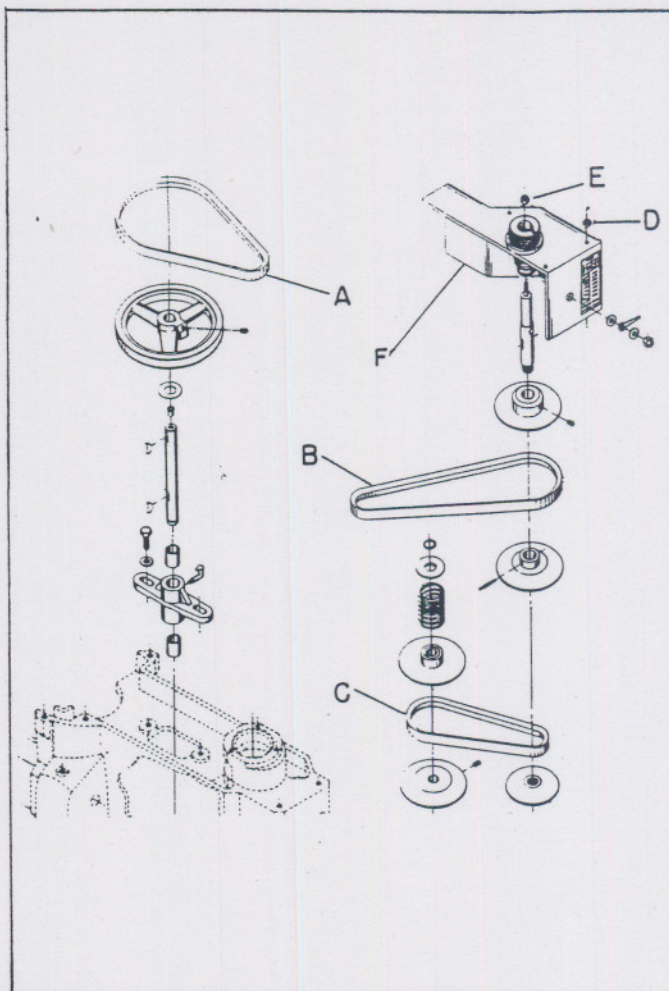

Fig. 16.
The power feed belt (A) Fig. 16, is replaced the same on Vari-Rate Models as on Standard Models. Refer to instructions 1 through 7 under Replacing Power Feed Belts (Standard Models Only).
To replace the variable speed belts (B and C) Fig. 16, proceed as follows:
1. Remove three nuts (D) Fig. 16.
2. Remove nut (E) Fig. 16 and remove the cover housing for variable speed pulleys (F) from the power feed.
3. The variable speed belts (B and C) Fig. 16, are now easily accessible and can be replaced.